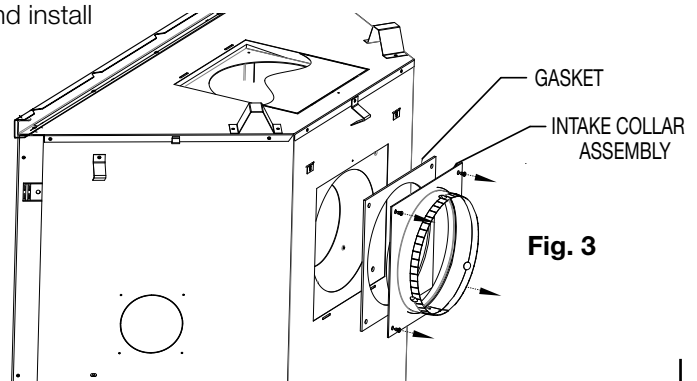

**Fig. 2**
- Secure the flue collar assembly, gasket and rear exit shield using the four hex head 3/8" thread cutting screws (**Fig. 2**).